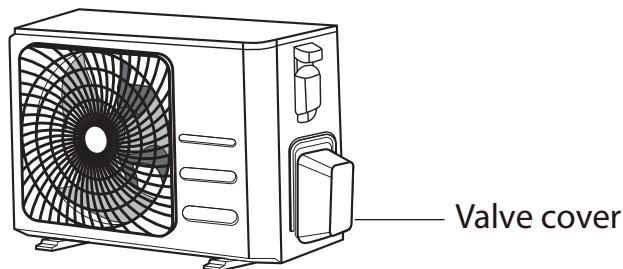

Fig. 5.9
1. Unscrew the cover from the packed valve on the side of the outdoor unit. (See **Fig. 5.9**)